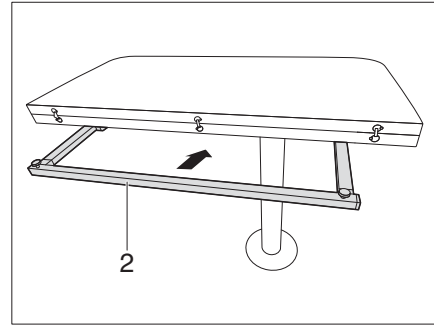

Fig. 105 Push in the folding table base
- Push in the table base (Fig. 105,2).